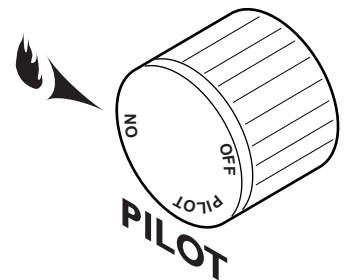

Figure 25 - On Position
Depress and turn the knob counterclockwise  to the “ON” position. *See Figure 25.* It will take less than four (4) seconds for the burner to ignite.